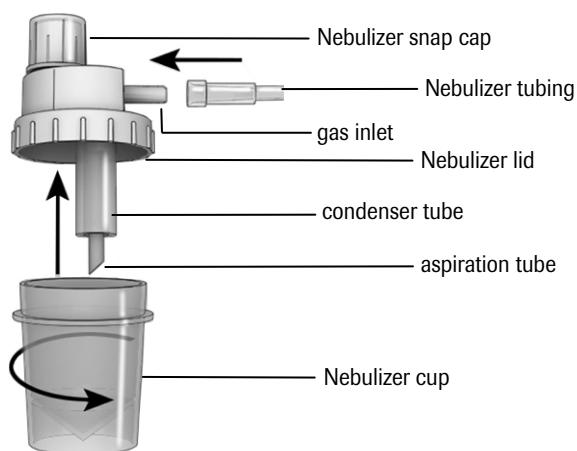

Figure 3: Diagram of the Nebulizer Apparatus
4. Pipette the following into the Nebulizer cup (Figure 3). Mix by pipetting up and down.
5. Assemble the Nebulizer apparatus as shown in Figure 3.
6. Position a Nebulizer snap cap over the Nebulizer chimney (not labeled in Figure 3; but it is the protrusion on top of the Nebulizer lid), and press firmly until the cap snaps into position. Ensure the Nebulizer snap cap is snug against the top of the lid.
8. Tightly screw the cup (with the DNA mixture in it) onto the Nebulizer lid (with condenser tube affixed, Steps 1.6 and 1.7), and connect one end of the Nebulizer tubing onto the gas inlet of the assembled Nebulizer apparatus (Figure 3).